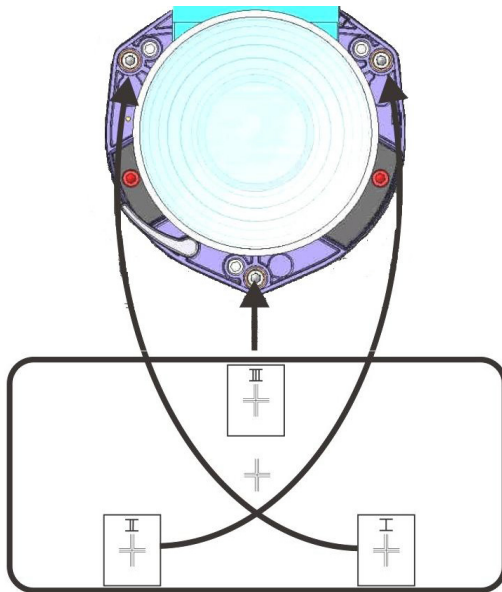

Figure 2-8 Cross-Hair Pattern
3. If boresight is required, see **Figure 2-8** to understand how the adjustment screws on the lens mount affect the corresponding cross-hairs on the test pattern.